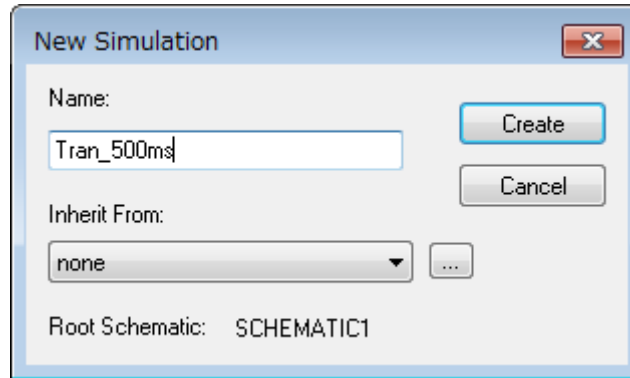

Figure 5.2 New Simulation dialog box
1. From the menu bar of OrCAD[®] Capture, select **PSpice - New Simulation Profile**. Then, the New Simulation dialog box shown in Figure 5.2 appears. Enter an arbitrary profile name and click **Create**.